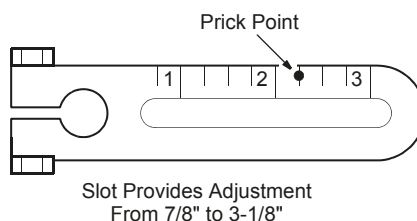

Figure-34 Proper Balljoint Position on Crank Arm.
3. Attach a balljoint to the actuator and damper crank arms at the correct position in the crank arm slot depending on the application. Refer to Figure-34, Table-8, and Table-9 for application settings. The use of 180° rotation damper actuators provides the best close-off at the end of stroke and the best controllability (turn down ratio).